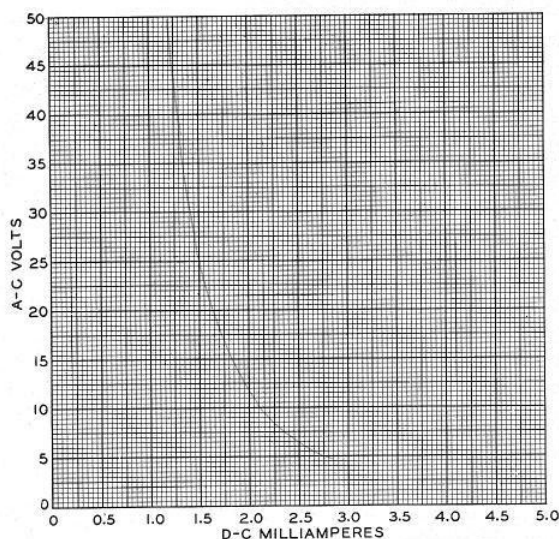

FIG. 11—A-C VTVM CALIBRATION CURVE
- (1) Set the master selector switch at Mx100.
- (2) Throw switch at top left of panel to "5 ma d-c."
- (3) Throw switch at top right of panel to "hi volts d-c."
- (4) Plug CF-27 test leads securely into jacks marked "a-c volts."
- (5) Turn "Voltage Gain" control clockwise to turn Exam-eter on. Allow 1 minute to warm up. Then adjust until meter is at full scale deflection (5 ma).
- (6) Connect test clips across unknown voltage and read meter deflection on "MA" scale. Now refer this value to curve in figure 11 for actual value of voltage measured.